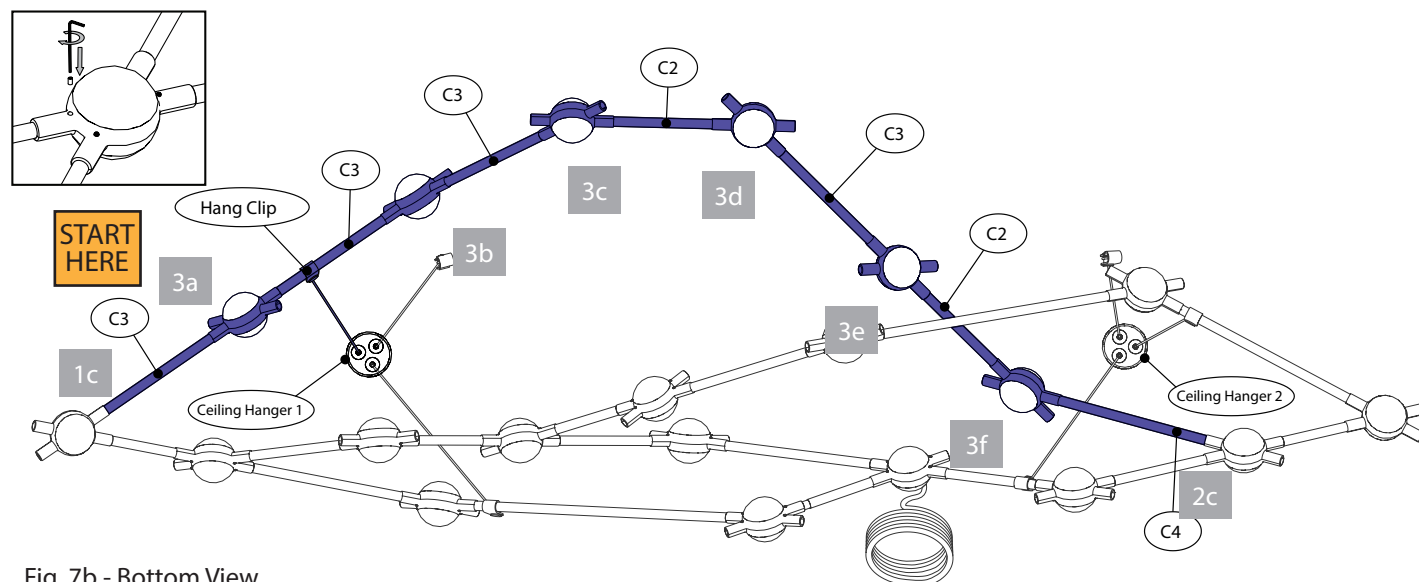

Fig. 7b - Bottom View
- Start by connecting a C3 Arm and 45° Hub (3a) to the 45° Hub (1c) from Section 1, then connect another C3 Arm and 45° Hub (3b) to a Hang Clip from Ceiling Hanger 1 (note the Hang Clip orientation in Fig. 7b), approx. 1" from Hub (3a).